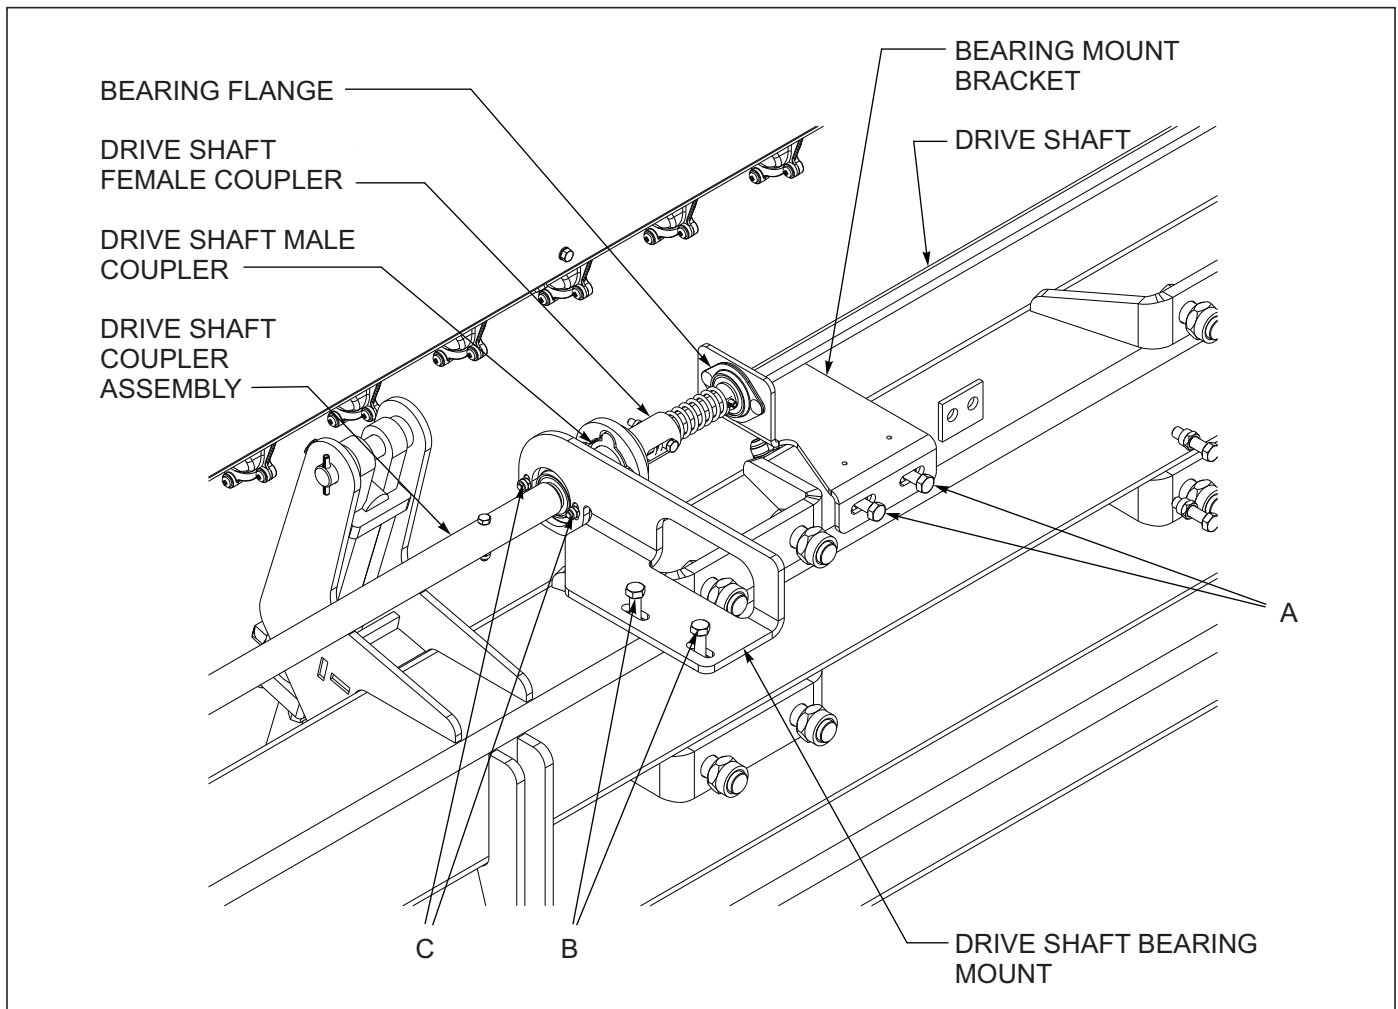

Figure 4-37: Drive Shaft - Coupler Alignment
1. To align the coupler, loosen the adjustment bolts A, B, and C **See Figure 4-37**.